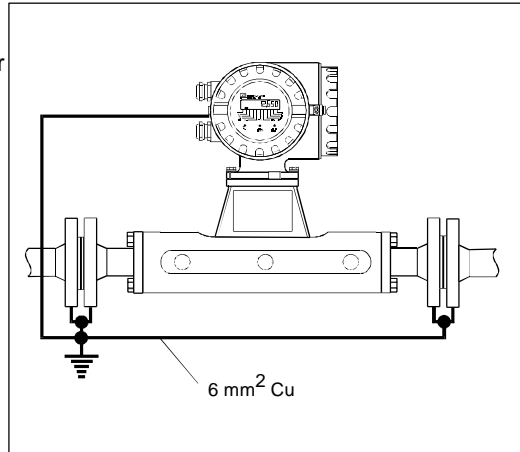

Fig. 19: Potential equalisation in areas with strong electrical interference
- In order to take full advantage of the electromagnetic compatibility of the Promass measuring system, it is recommended that the transmitter housing is connected to ground (see Fig. 19). A 6 mm2 copper cable should be used. The connection can be via a flange or an existing potential equalisation system.